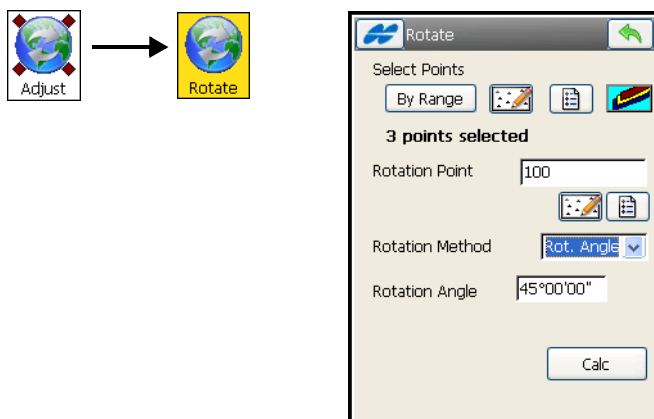

Figure 10-22. Rotate
- Select the points for the task. In the *Select Points* field, tap the **By Range** button and enter (set) the range of the point names, or select points for the scaling task on the map or from the list (Figure 10-22).